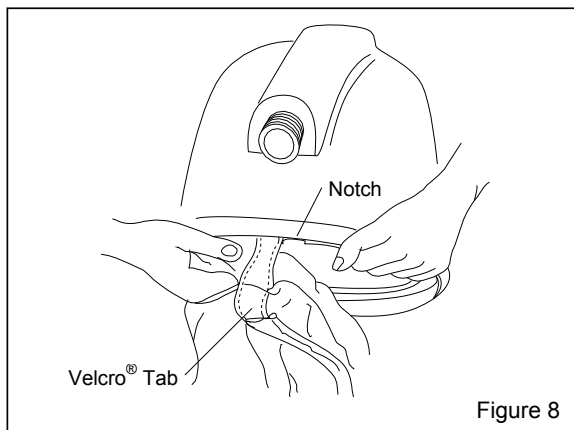

Figure 8
**9.5.2** Separate the Velcro® tabs on the back of the cape. Refer to Figure 8.